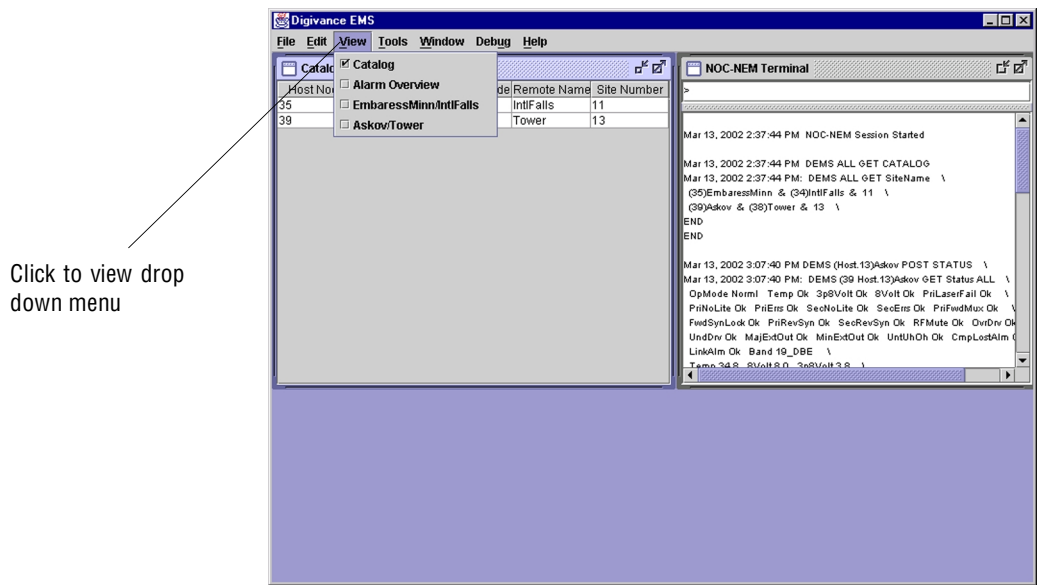

Figure 4-1. Digivance Element Management System Main Window
8. Start up the Digivance EMS software program. The EMS main window will open as shown in Figure 4-1. Note: The EMS software should be installed on a PC-type computer and the PC's COM port should be configured to interface with the HU. For information about installing the EMS software and configuring the PC's COM port, refer to the Digivance Element Management System Software User Manual (ADCP-75-125).